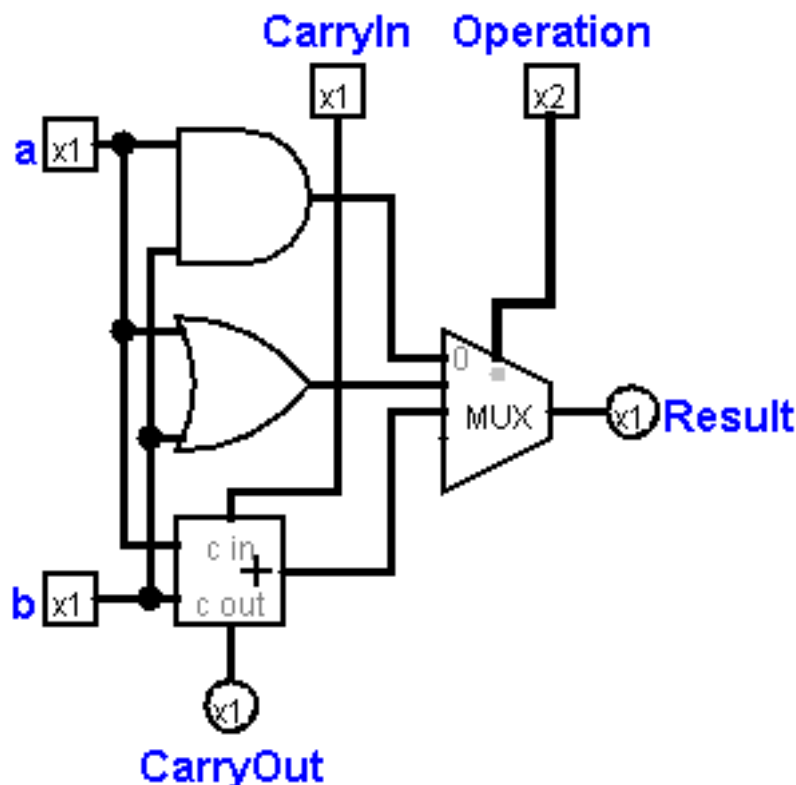

Figure 1: 1-bit ALU
- Figure 1 indicates a 1-bit implementation of an ALU: